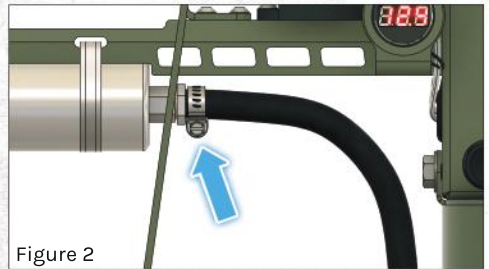

Figure 2
- 2 Loosen the clamp securing the hose to the fuel pump fitting and pull the hose off (Figure 2).